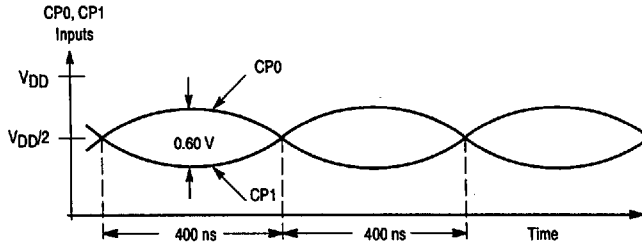

Figure 6-9. Communications Port Signal Input for Table 6.2.13
- CP0 and CP1 inputs each 0.60 V p-p, 1.25 MHz sine wave 180° out of phase with each other as shown in Figure 6-9.